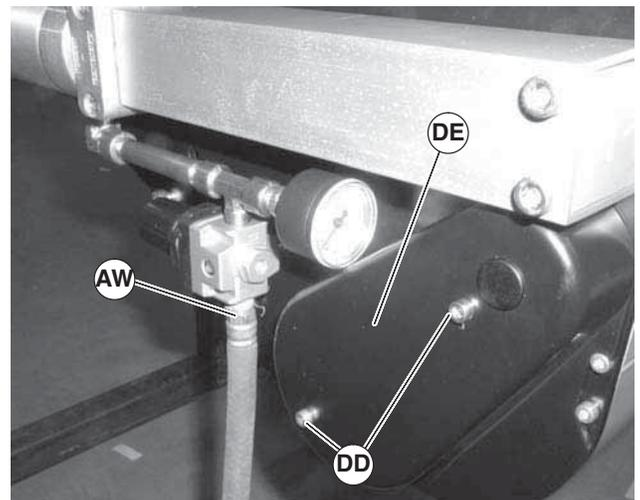

Figure 109
1. Remove air supply (Figure 109, item AW) from center drive module.
2. Remove screws (Figure 109, item DD) and cover (DE).
8. Reinstall cover (Figure 109, item DE). Tighten screws (DD) to 69 in-lbs (8 N-m).